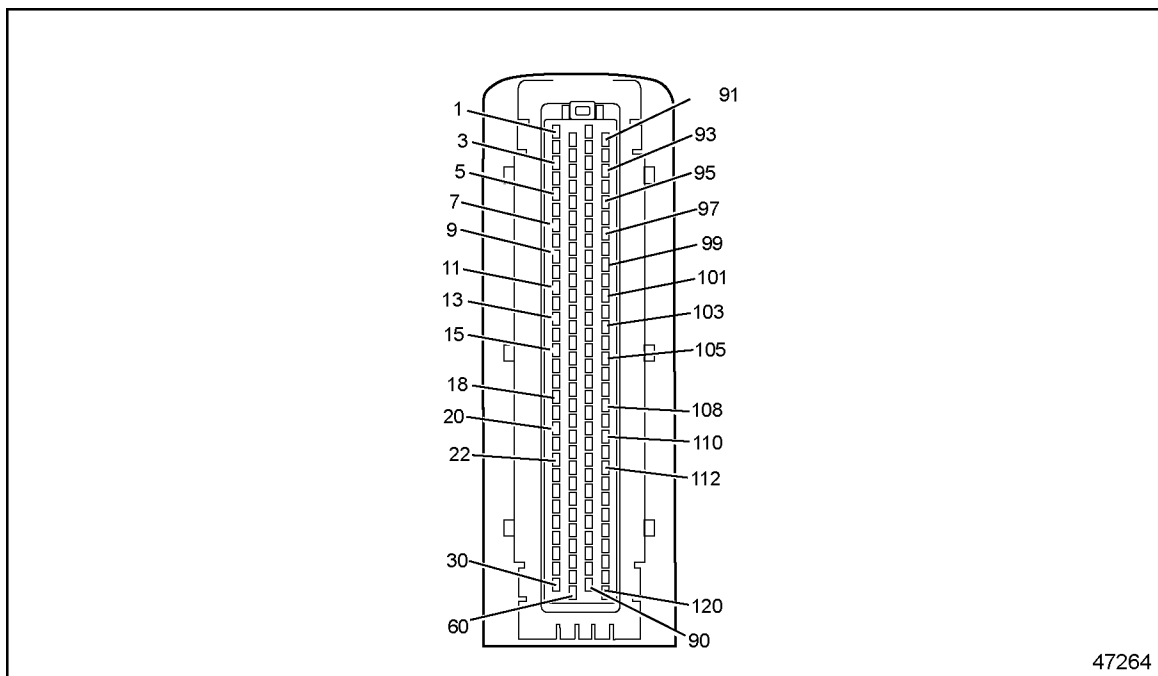

Figure 14-1 120-pin MCM Connector
- [b] If the resistance is less than 5Ω , repair the short between pins 55 and 108 of 120-pin MCM connector. See Figure 14-1. Refer to section 14.3.1.1.